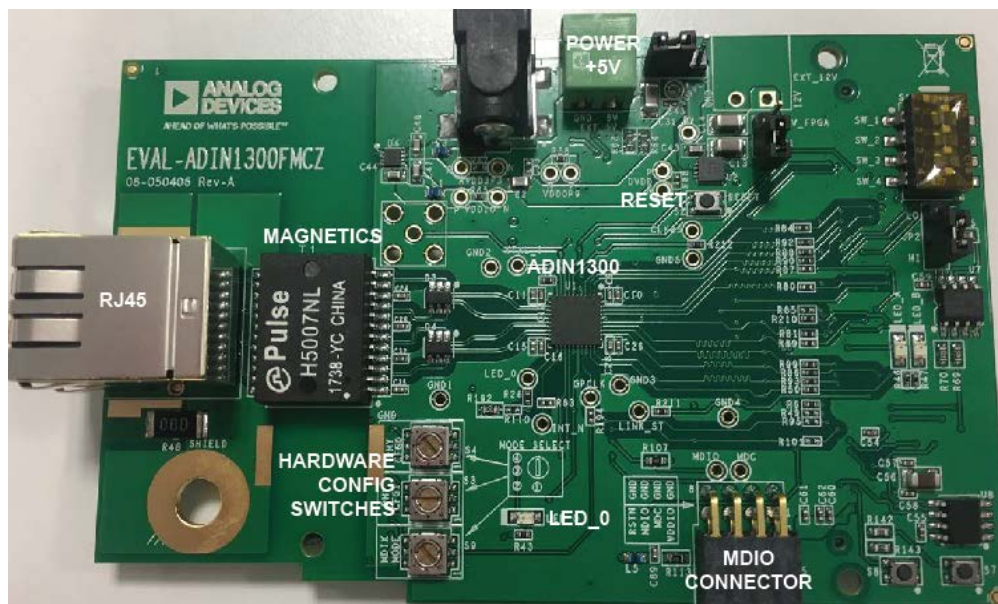

Figure 1. Overview of ADIN1300 Evaluation board
3. Connect the MDIO interface dongle to the ADIN1300 board, ensuring the ADuCM3029 Microcontroller faces up, see Figure 1. The MDIO interface dongle is not keyed.